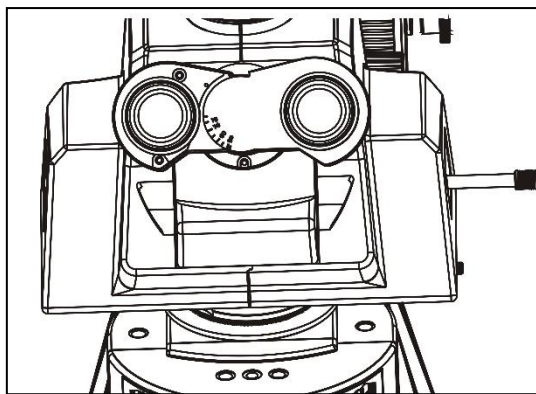

Figure 5
**3-5 Adjusting the pitch (figure 5)**